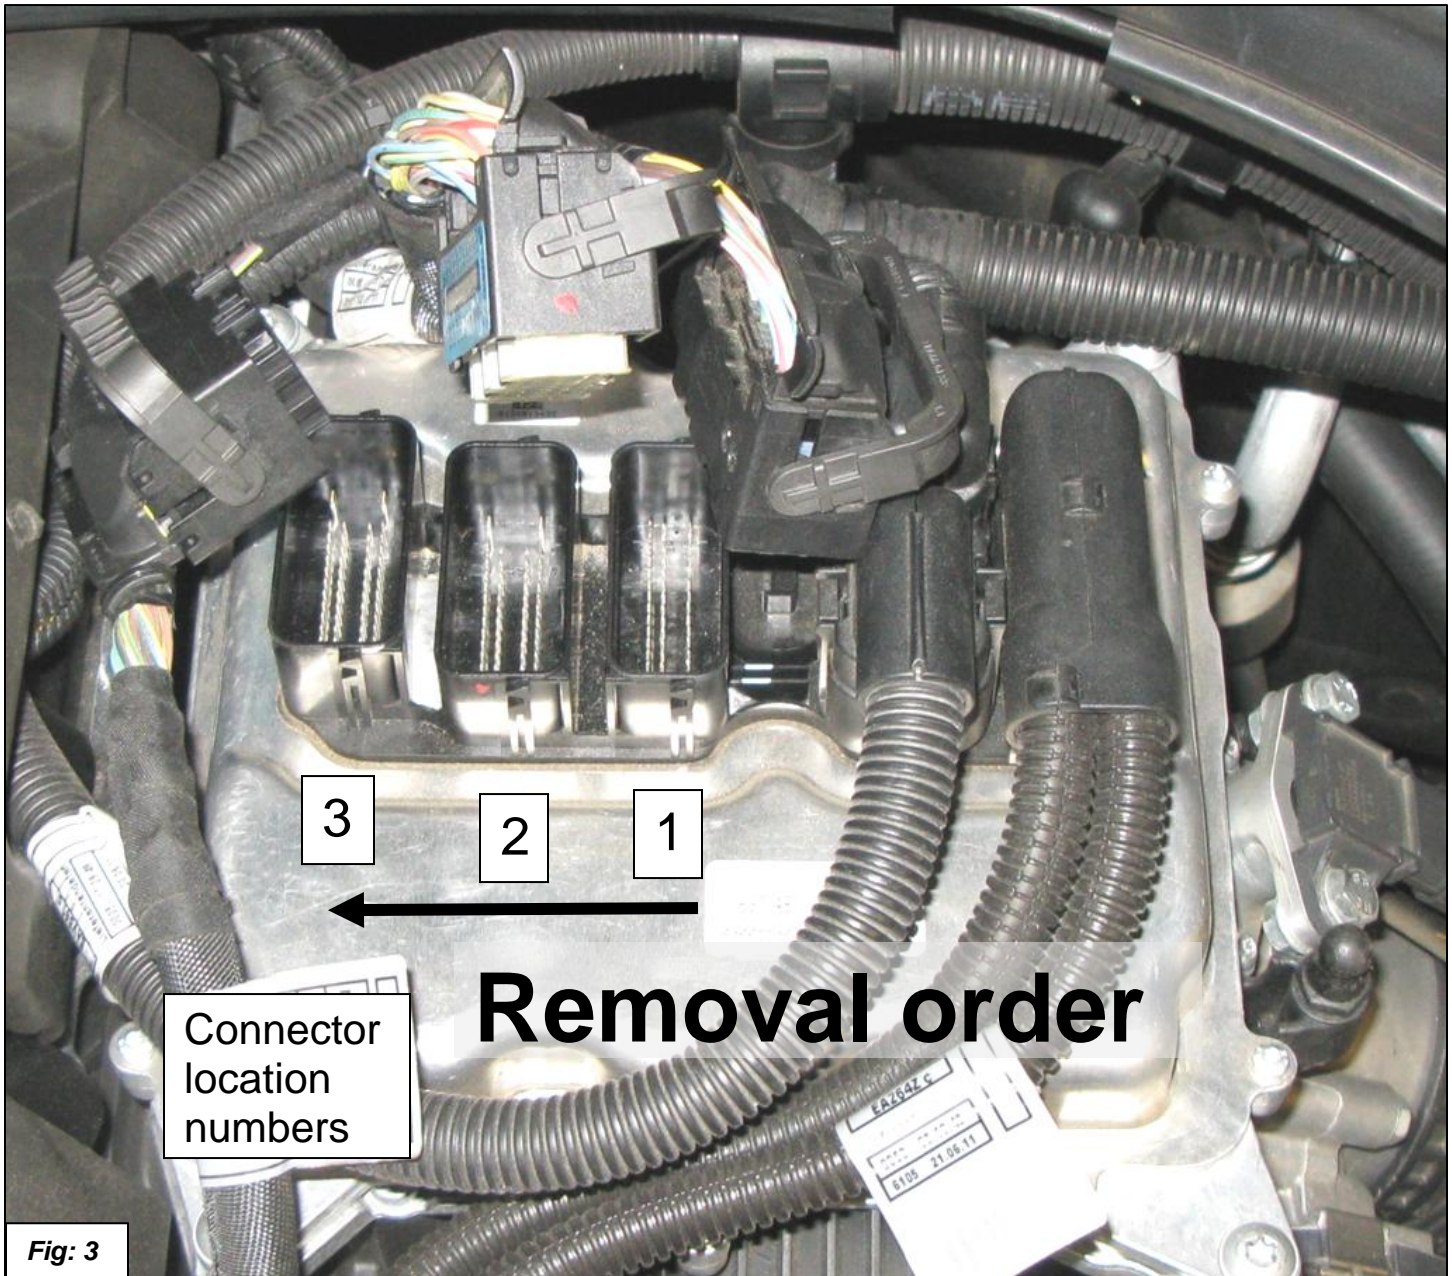

Fig: 3
4. Disconnect the first three large connectors on the engine control unit. See figure 3. You have to start with the back large connector (1) and work your way forward to connector (3). You will be connecting the DPT wire harness connectors between the stock ECU and the stock ECU connectors.